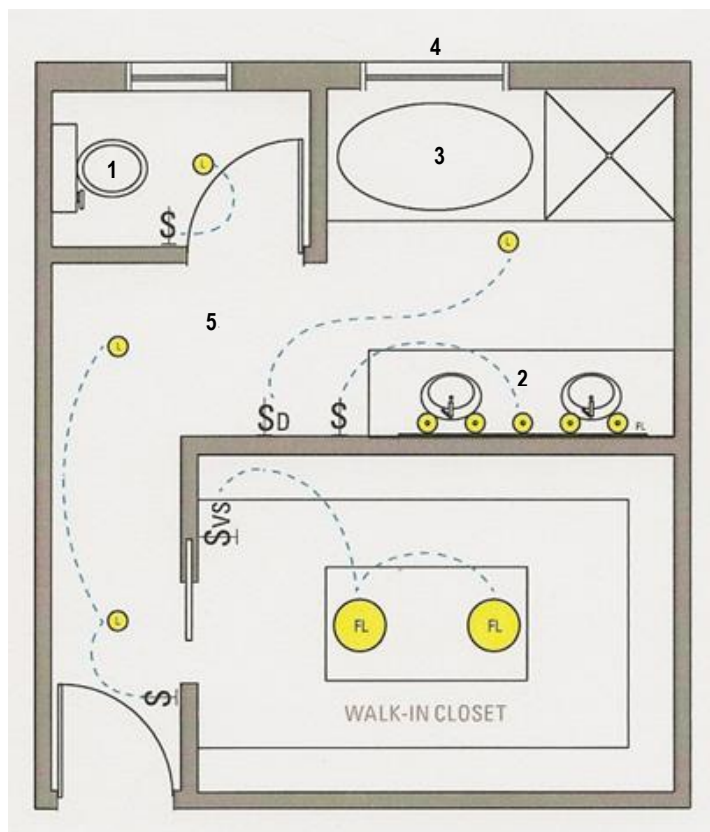

Figure 1
If the scope of work includes the reconfiguration of the bathroom layout, please bring **three (3)** sets of plans (minimum 8 1/2-in x 11-in drawings) depicting the existing and proposed bathroom floor plan and a written detailed description of the scope of work. It is important the plans clearly show all work proposed to avoid delays in permit issuance. Once a permit is issued, the scope of work is limited as defined and illustrated in the documents filed and the items to be replaced in the checklist below. See sample (figure 1) on next page. The applicant is responsible for compliance with all code regulations. If the scope of work is altered after permit issuance, the applicant shall request the permit be updated.